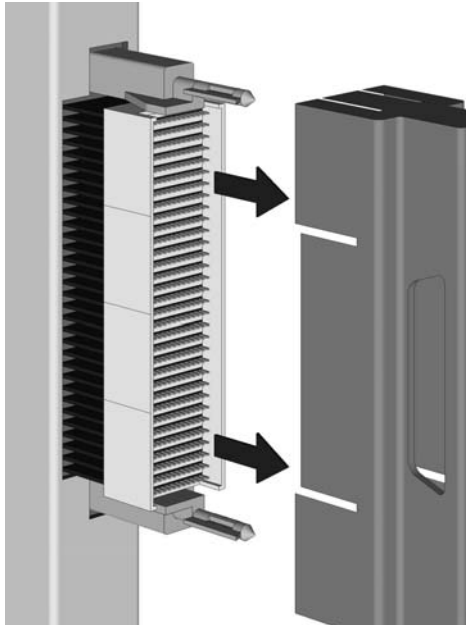

Figure 1-1. Removing the Pin Cover
- 1 Remove the pin cover from the connector pins at the back of the pass-through module, as shown in Figure 1-1, Removing the Pin Cover.